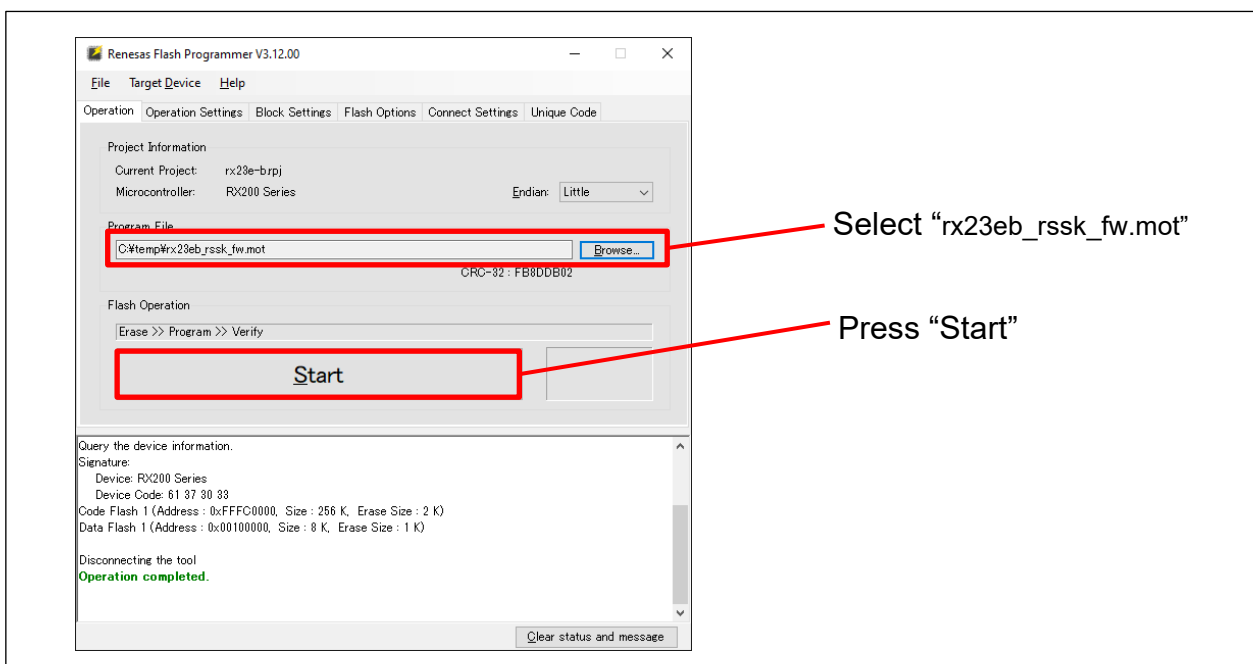

Figure 3-5 Renesas Flash Programmer Writing Operation
4. Select “rx23eb_rssk_fw.mot” referring to Figure 3-5, press the reset switch on the RSSKRX23E-B board, then press “Start”.